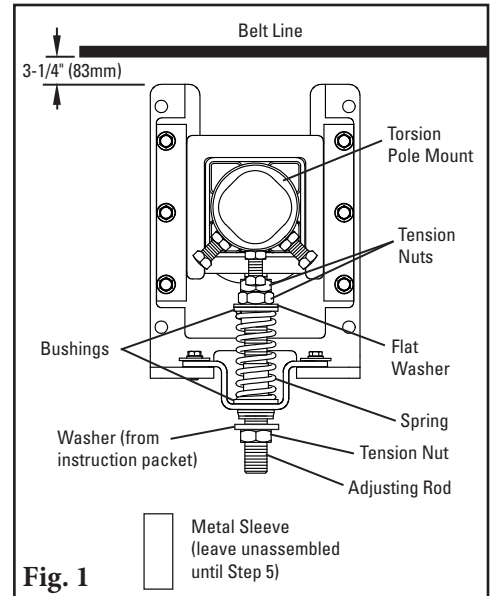

Fig. 1
1. **Reconfigure the standard pull-up tensioner to the push-up style.** Remove the 3 tension nuts, flat washer, 2 bushings, spring, sleeve and hat bracket; reassemble (Fig. 1) with 2 tension nuts, flat washer, 2 bushings, spring and hat bracket on upper end of adjusting rod. Add the washer (from instruction packet) and third tension nut to bottom of adjusting rod.
1. **Disassemble guide kit.** Remove nuts and washers from both sides of tensioner (Fig. 1).